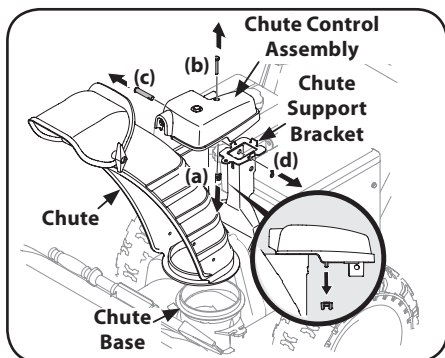

Figure 2-29
1. Remove wing nut (a) and hex screw (b) from chute control assembly and clevis pin (c) and cotter pin (d) from chute support bracket. Position chute assembly (forward-facing) over chute base. See Figure 2-29.